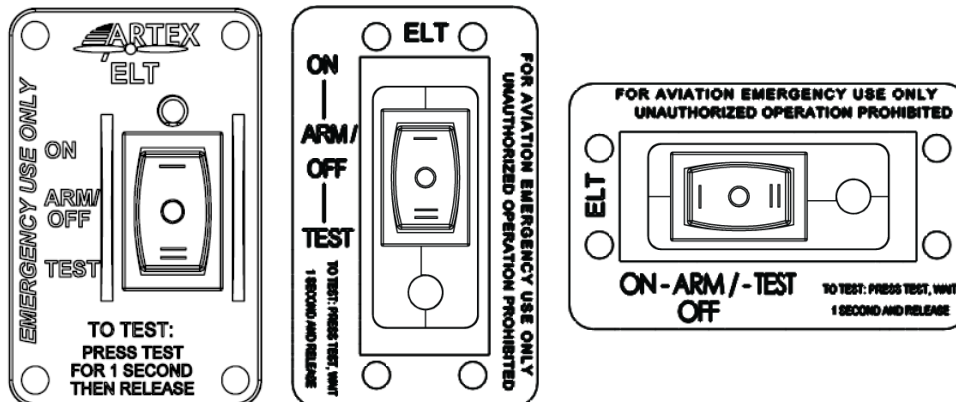

Figure 2 Remote Switch Front View
- 2) The cockpit-mounted remote switch assembly includes a status LED and control switch. The switch allows the operator to manually activate and reset the ELT for testing (see Figure 2).